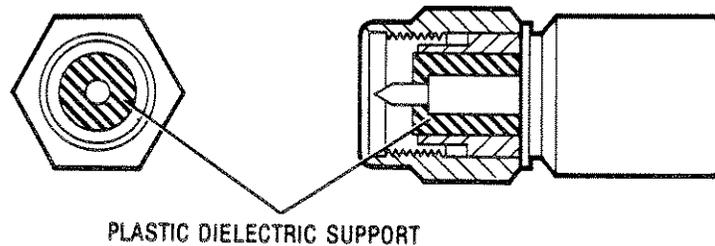

Figure 1-2. Precision 3.5 mm and SMA Connectors
2. Important structural and dimensional differences exist between these two types of connectors (Figure 1-2). Precision 3.5 mm connectors are air dielectric devices. At the connector interface, only air exists between the center and outer conductors. The male and female center conductor is supported by a plastic "bead" deep within the connector body. In SMA connectors a plastic dielectric supports the entire length of the center conductor. The diameters of both the center and the outer conductors differ between SMA and precision 3.5 mm connectors. Because of these structural and dimensional differences the connection will exhibit some discontinuity (SWR).